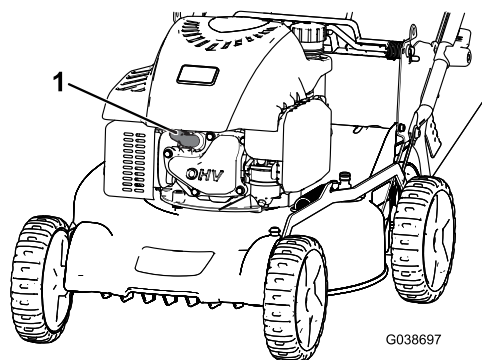

Figure 26
2. Disconnect the spark-plug wire from the spark plug (Figure 26) before performing any maintenance procedure.
2. Disconnect the wire from the spark plug (Figure 26).